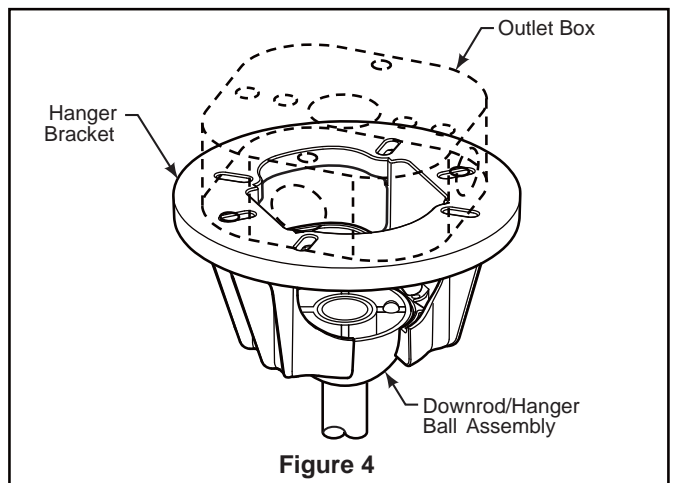

Figure 4
4. Install the clevis pin, hairpin clip and tighten set screws. The clevis pin and hair pin clip must be properly installed to prevent the set screws from working loose. (Figure 4)
3. Carefully lift the fan and seat the downrod/hanger ball assembly on the hanger bracket that was just attached to the outlet box (Figure 4). Be sure the groove in the ball is lined up with tab on the hanger bracket (Figure 3).